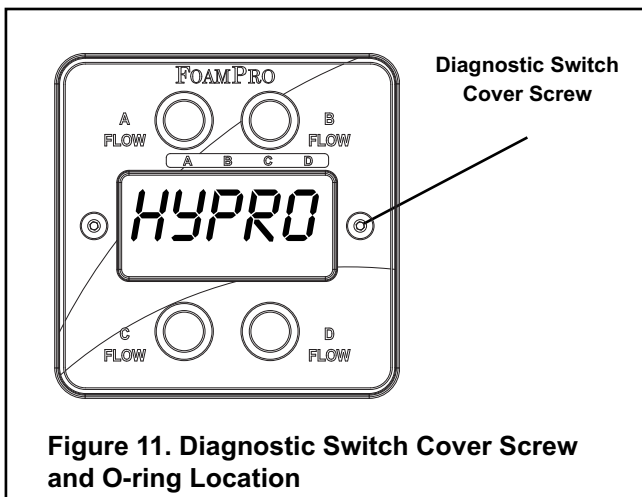

Figure 11. Diagnostic Switch Cover Screw and O-ring Location
1. Diagnostic mode is entered by removing the screw and o-ring on the right-hand side of the MultiFlo Control Module (see Figure 11) using a $\frac{3}{32}$ " allen wrench.